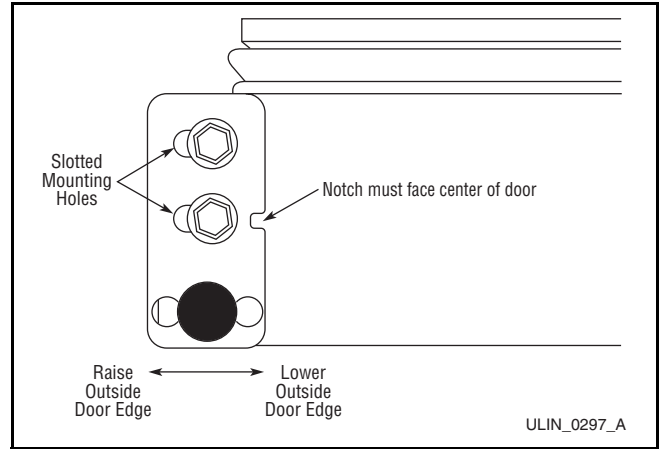

Figure 39
3. See **Figure 39** and **Figure 40**. If the top far edge of the door needs to move UP, move the hinge plate toward the outside of the door and retighten screws. If the top far edge of the door needs to move DOWN, move the hinge plate toward the inside of the door and retighten screws.